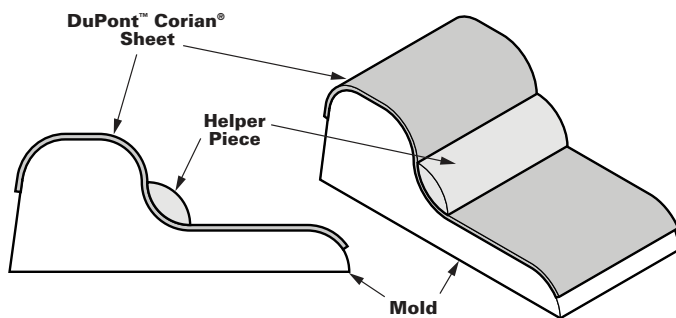

Figure D-3
“Helper pieces” can be used in addition to the mold to do some initial shaping before vacuum membrane is activated or work with the vacuum membrane to help forming in difficult spots as shown in Figure D-3.
- Use helper pieces such as in Figure D-3. The membrane will not have to stretch as much.